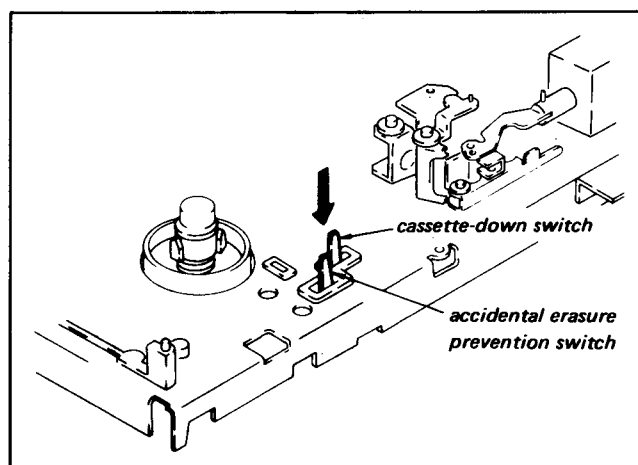

Fig. 1-12. How to put the recorder in recording mode with the FL cassette compartment removed
1. Thread by the procedure in 1-11-1, then press the accidental erasure prevention switch shown in Fig. 1-12.